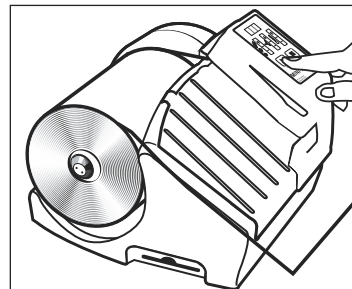

Figure 6
- Press and hold the **START** button. Film advances automatically. (See Figure 6)